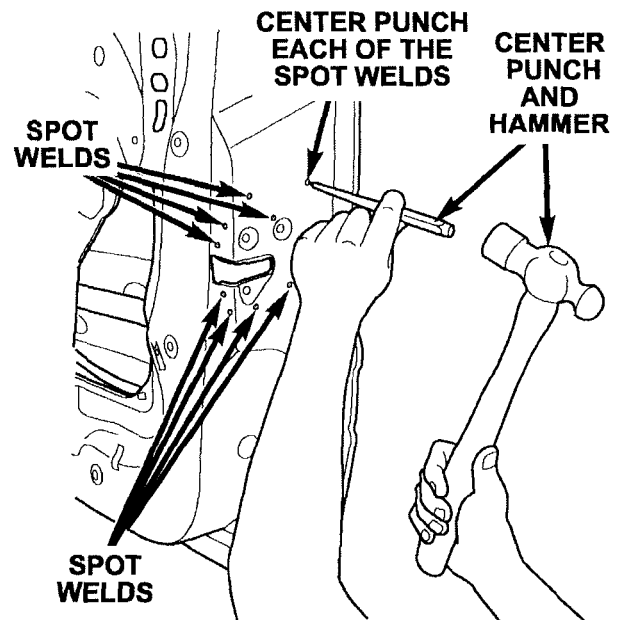

Figure 3
11. Using a center punch, carefully center punch each of the 10 spot welds that hold the door latch reinforcement plate to the door frame (Figure 3).